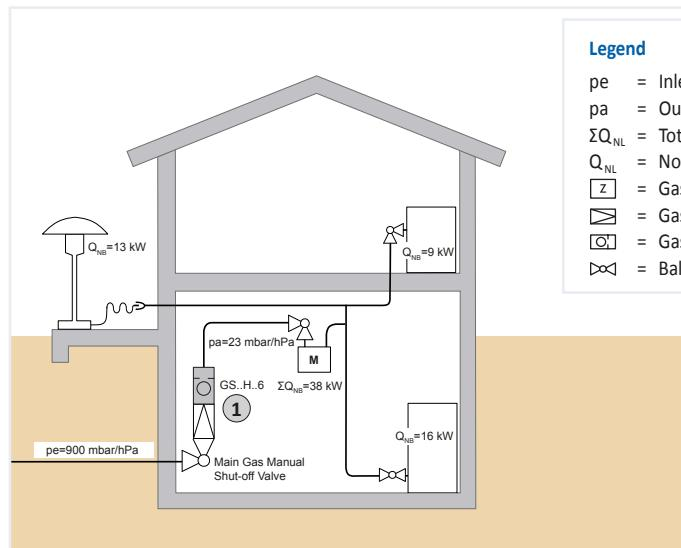

Figure 3: SENTRY GS in a single-family dwelling (supplied with natural gas)
In figure 3 a single Efv is required for an entire gas installation. It is recommended that the Efv be installed at the outlet of the gas pressure regulator (see Example 1 below).
1. See ① in figure 3